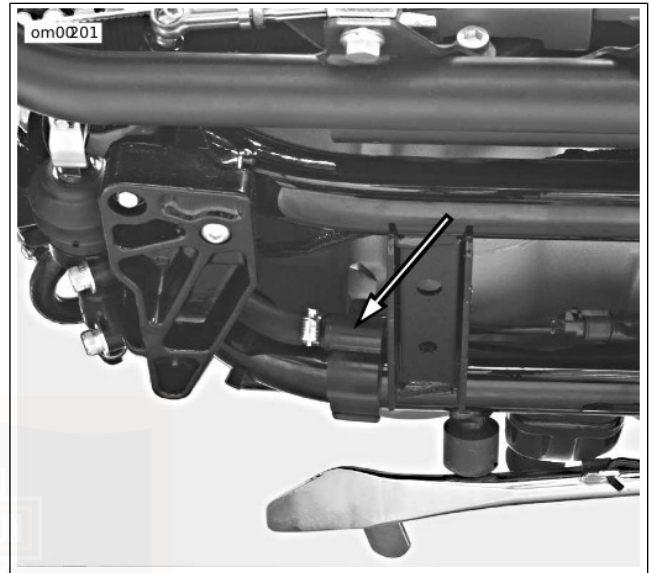

Figure 41. Oil Tank Drain Hose and Bracket: Sportster Models
3. See Figure 41. Locate the oil tank drain hose and bracket secured to frame underneath motorcycle.
5. See Figure 41. Use bracket to secure oil tank drain hose to underside of motorcycle frame.